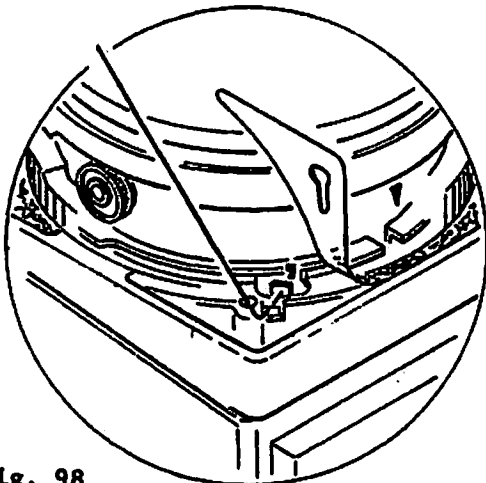

Fig. 98
2. Then thrust Lens lock lever (RS2123K2) by hook-shaped rod from the hole of Front cover as shown in Fig. 98.